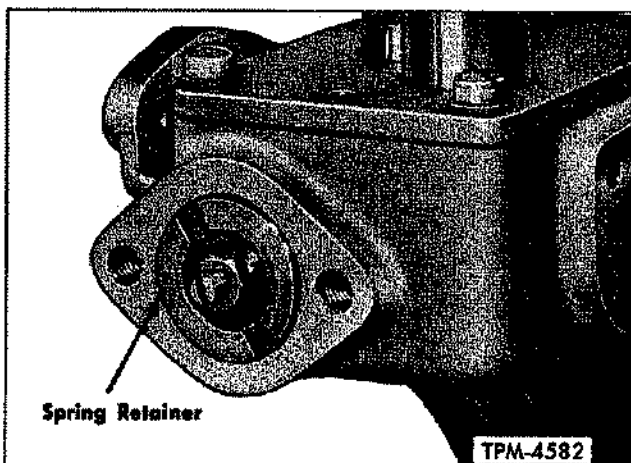

Figure 63—High Speed Spring Retainer Installed
5. Thread spring retainer into housing (fig. 63) and tighten with nut wrench.